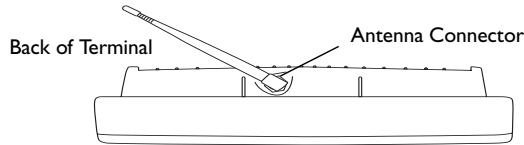

Figure 4. Attaching a Primary Antenna
4. Optional: attach a primary antenna to the connector at the top of the terminal, as shown in Figure 4. To attach the antenna: